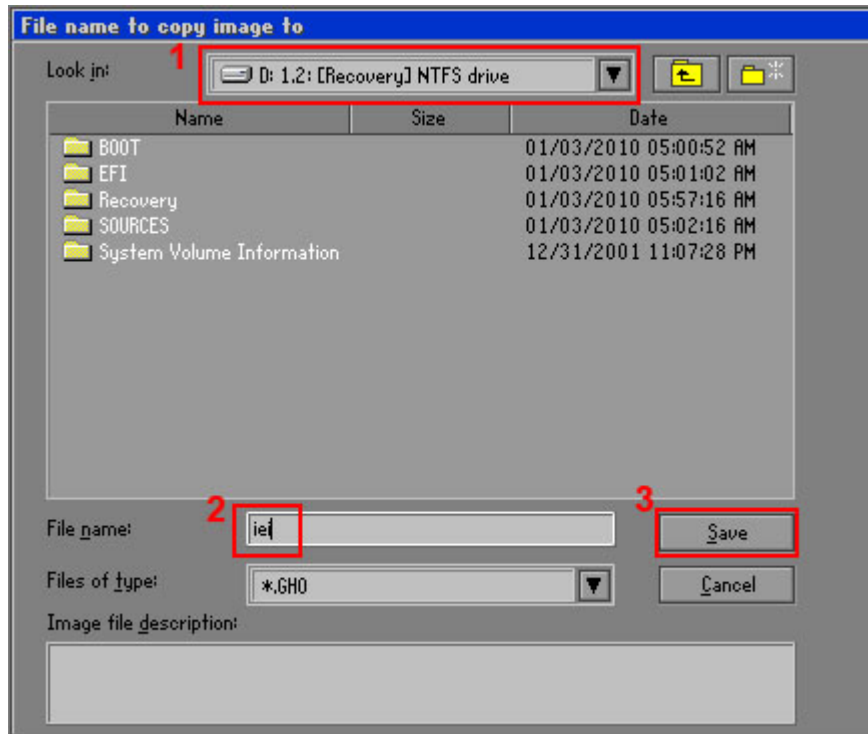

Figure B-13: File Name to Copy Image to
Step 7: Select 1.2: [Recovery] NTFS drive and enter a file name called **iei** (Figure B-13). Click **Save**. The factory default image will then be saved in the selected recovery drive and named IEI.GHO.